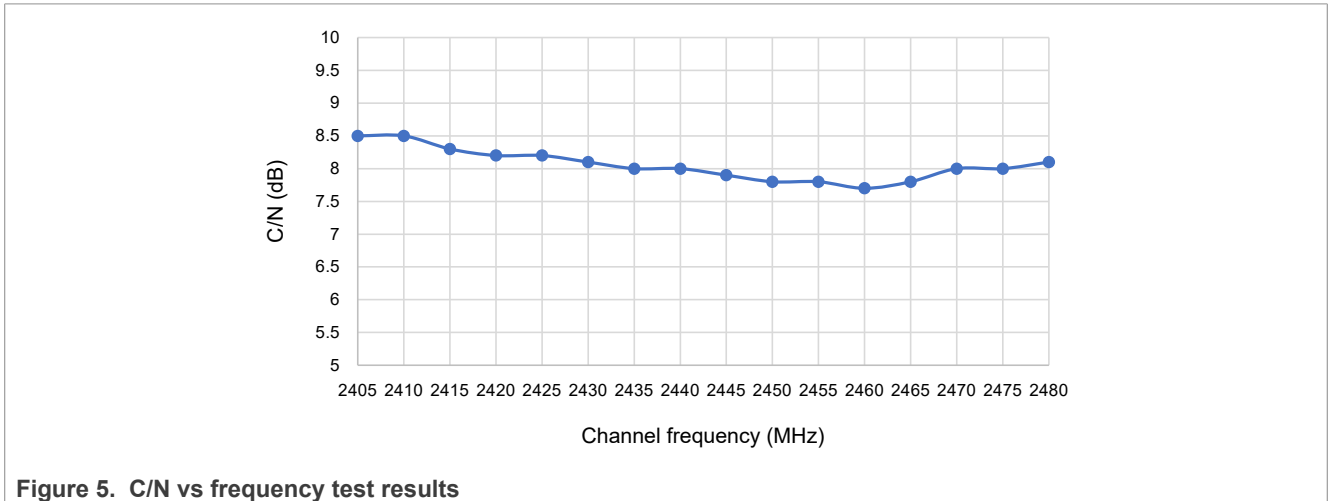

Figure 5. C/N vs frequency test results
5. For each channel of the desired signal, start from a C/N where PER is at 0%, then decrease it until the criteria PER = 1% is met, and then, record and plot the C/N value, as shown in Figure 5.
Figure 5 shows the results of the C/N vs frequency test.